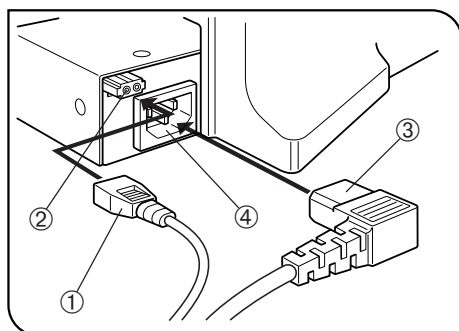

Fig. 36
10 Connecting the Cables and Power Cord (Figs. 36 & 37)
2. Connect the power cord connector ③ to connector ④ firmly. (Fig. 36)